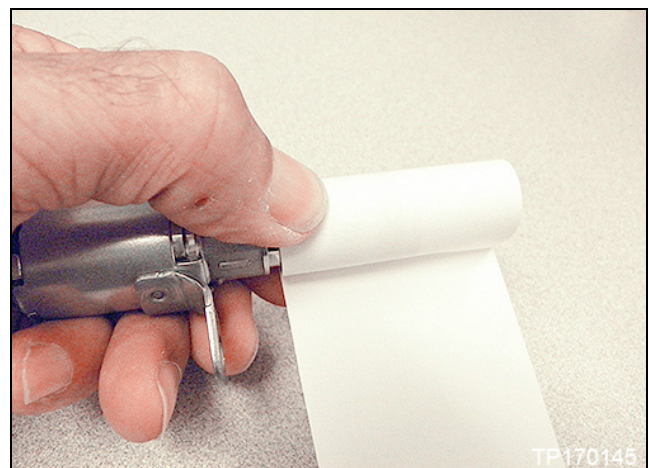

Figure 4
- c. Roll the VTC solenoid with the sheet of paper cut in step 5b (Figure 4).